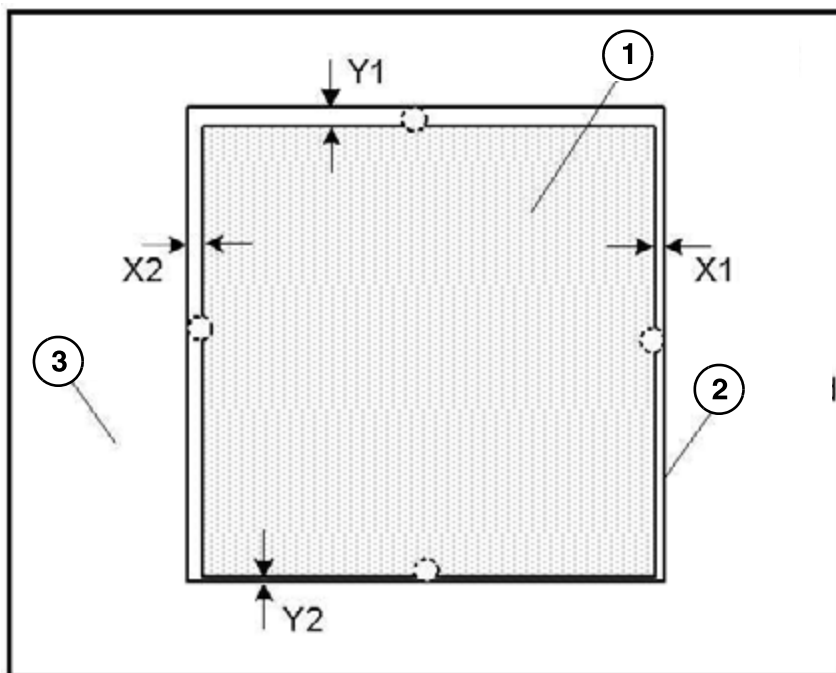

Fig. 14: Light / radiation field 2
- Switch the light localizer on and mark the light field with washers or coins on the cassette (Fig. 14 / p. 22).